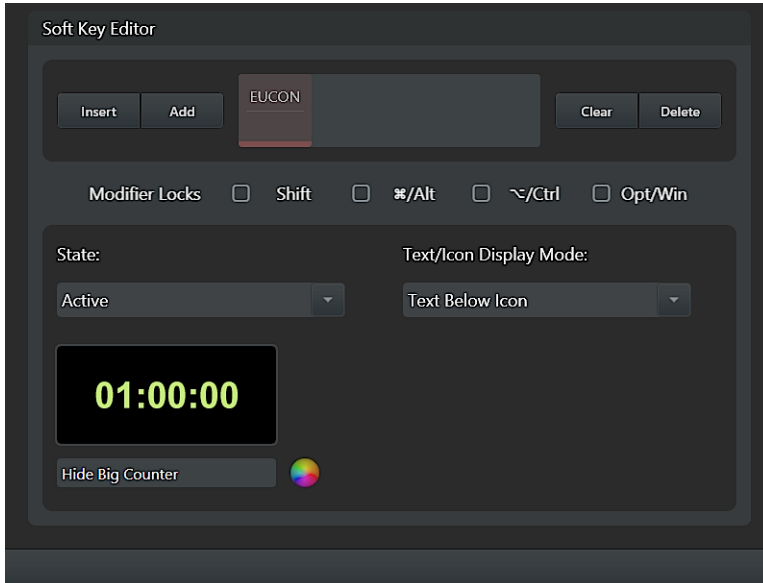

Figure 38. Active state example
- Repeat for the other state (if you defined display characteristics for the Inactive state, now choose Active and choose an icon, enter a name and choose a color). In the example Soft Key we created for the Big Counter, we defined text for the Active state as “Hide Big Counter” as shown in Figure 38.